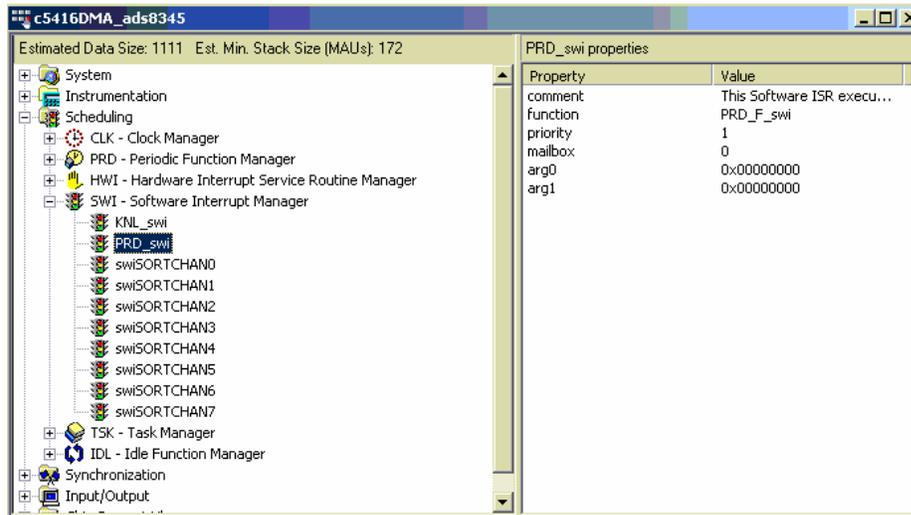

Figure 28 SWI Sort Overview
1. Expand the *Scheduling Module*. Right click on *SWI-Software Interrupt Manager* and select *insert SWI*. Now rename that object to *swiSORTCHAN0*, as shown in Figure 28. Repeat the previous Step 7 more times, so the readers' screen is similar to that shown in Figure 28.